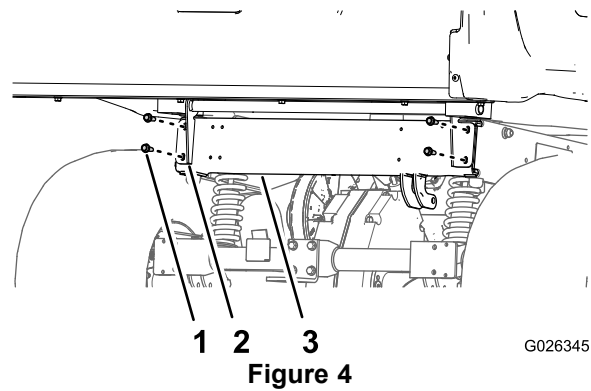

Figure 4
8. Remove the 4 flanged-head bolts (3/8 x 1 inch) that secure the hinge brackets of the cargo box to the rear-frame channel of the machine (Figure 4).
11. Remove the 4 flanged-head bolts (3/8 x 1 inch) that secure the hinge brackets of the cargo box to the rear-frame channel of the machine (Figure 4).